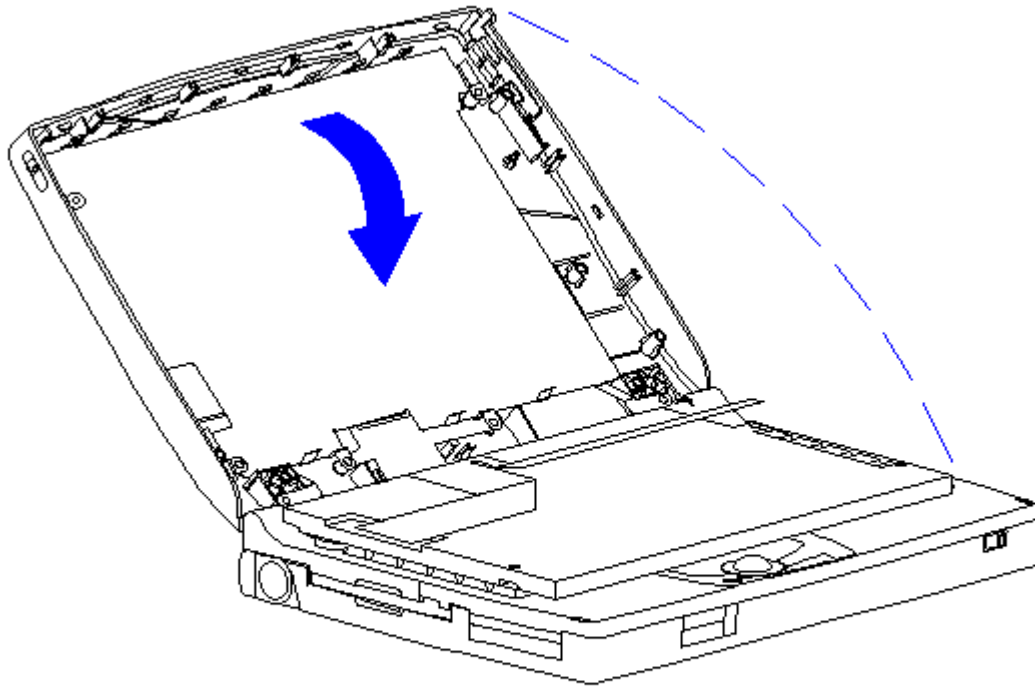

Figure 5-100. Removing the CTFT (10.4 inch) Panel from the Display Enclosure
8. Carefully rotate the CTFT (10.4 in) panel down and out of the display enclosure, laying the panel gently on the keyboard assembly (Figure 5-100).